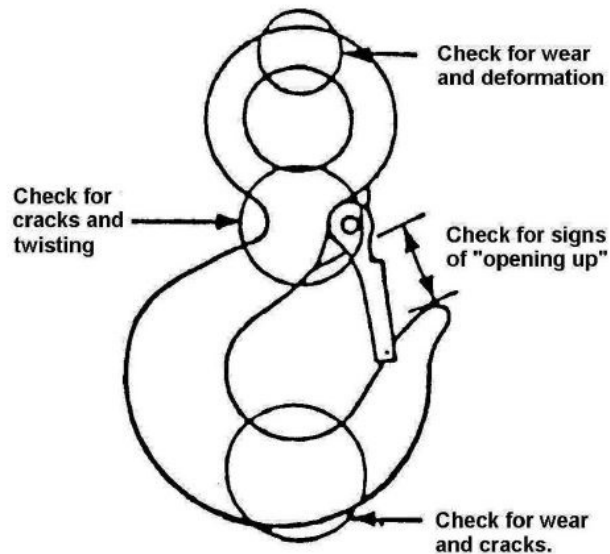

Figure 1-4. Hook inspection areas.
- Hooks that have been opened more than 15 percent of the normal throat opening measured at the narrowest point or twisted more than 10 degrees from the plane of the unbent hook. Hook inspection areas are shown in figure 1-4.